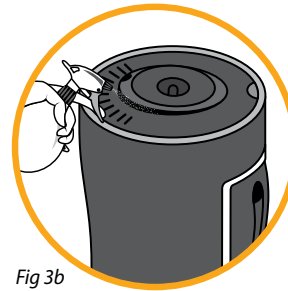

Fig 3b
- Spray rubbing alcohol around the no-spill insert and allow it to seep in 1-2 minutes to loosen the seal (Fig 3b).